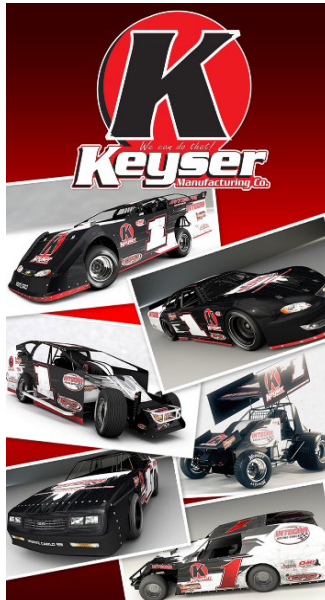

Figure 6: Opening screen for Keyser's Data App
- Once app is successfully downloaded, open Keyser's Data App (you should see the screen in Figure 6 below).